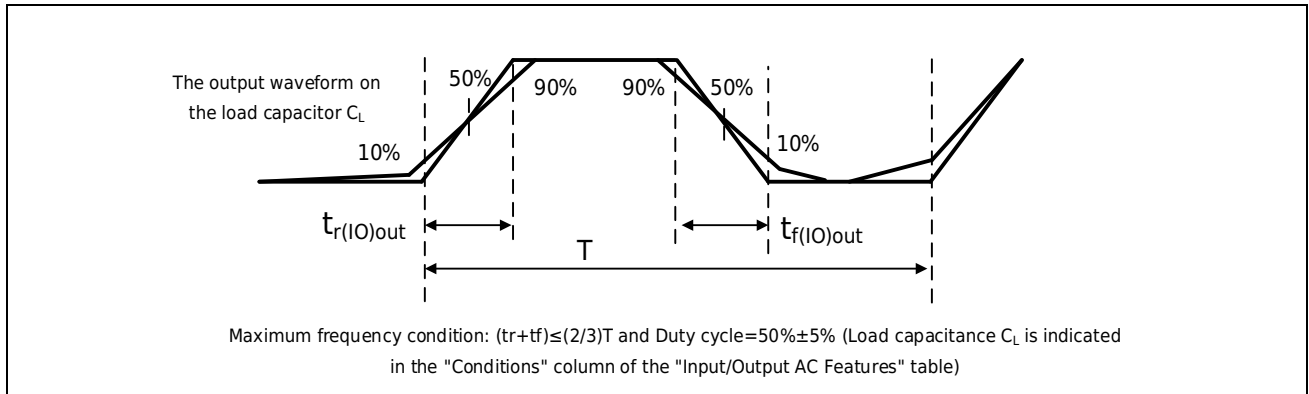

Figure 3-6 I/O AC Features Definition
1. The maximum frequency is defined in Figure 3-6.